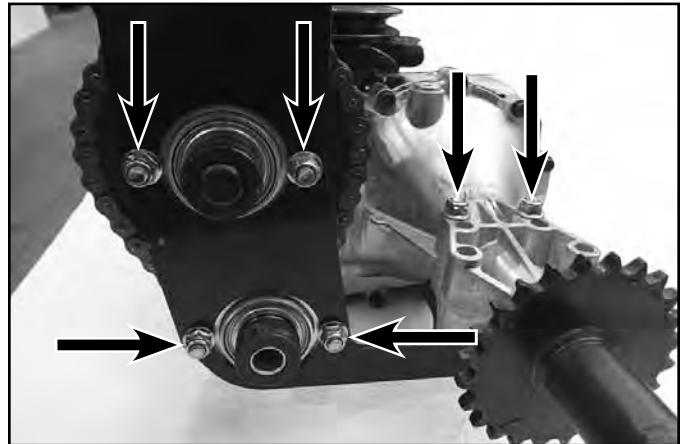

Fig. 109
2. Remove the bolts that secure the bearings to the bearing plate. Remove the bolts that secure the bearing plate to the transmission (Fig. 109).